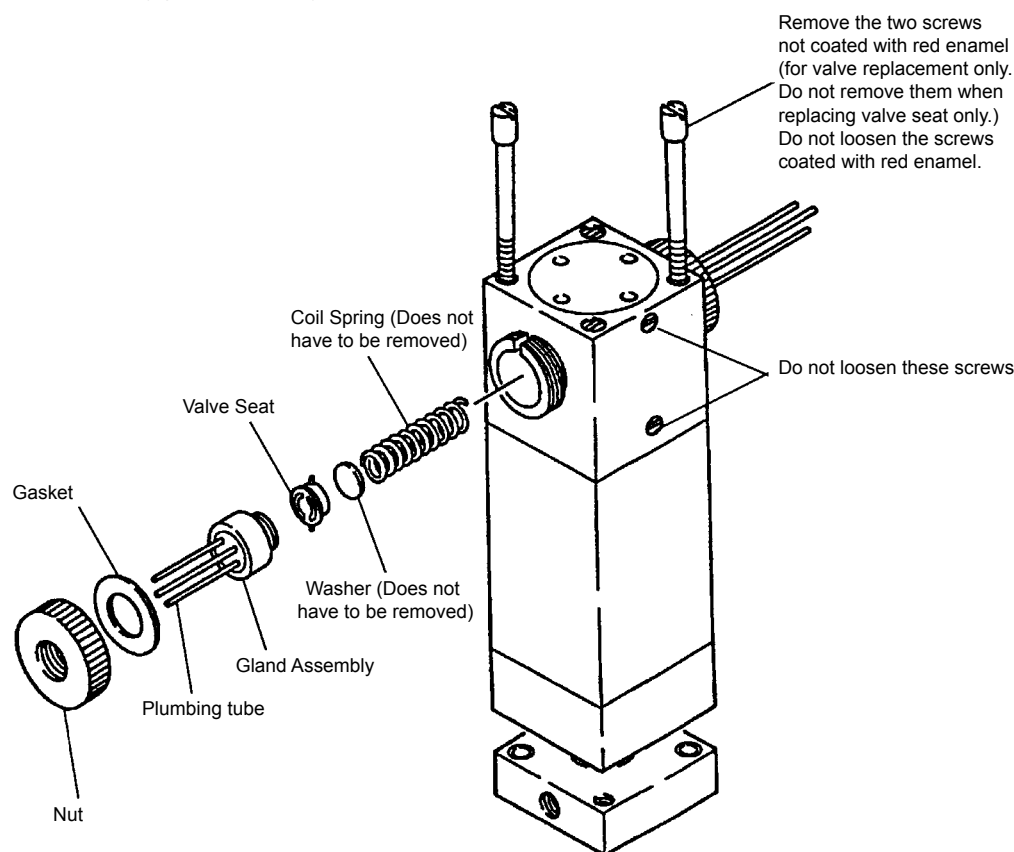

Figure 6.32 Rotary Valve
See Figure 6.32.
See Figures 6.32 and 6.33.
- (9) Remove the two screws not coated with red enamel and then remove the rotary valve. Do not loosen the screws coated with red enamel.
- (10) Remove the gasket, gland assembly, and the valve seat, in this sequence. Do not remove the washer and the coil spring (see Figure 6.32).